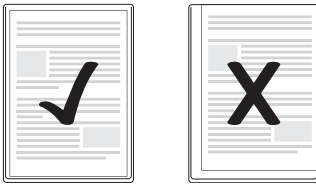

Fig. 1
- ▶ Ensure that all edges of the document have at least two millimetres of space to the edges of the laminating pouch, as shown in Fig. 1.
- ▶ Ensure that all edges of the document have at least two millimetres of space to the edges of the laminating pouch, as shown in Fig. 1 (see p. 8).